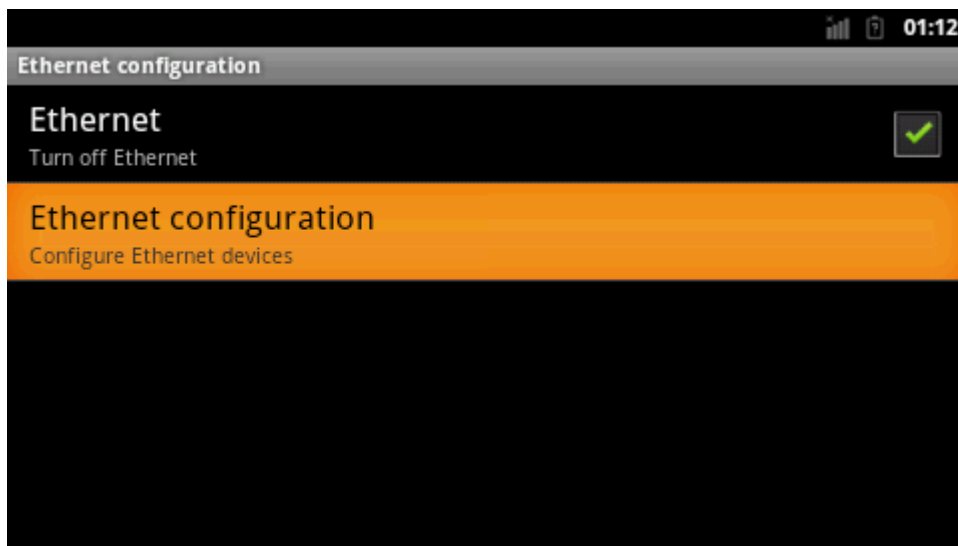

Figure 5-24
(3) Select "Ethernet configuration" to enter. Refer to figure 5-24: